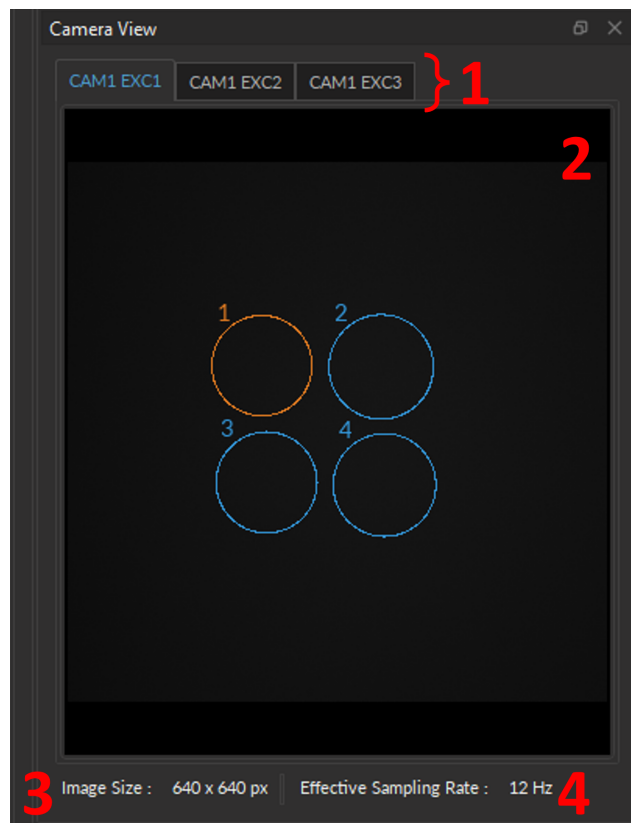

Figure 13.41: Camera View
1. The **CAM # EXC #** tab (Fig. 13.41, 1) - which displays each sensor's live video feed, where the ROI(s) can be drawn, edited, or deleted. Note that the tab will display the user-defined name if a name was assigned to each camera excitation when creating the channel in the **Configuration Window** (Fig. 13.15, e).
3. The **Image Size** (Fig. 13.41, 3) displays the image resolution, set in the **Configuration Window** (as in Fig. 13.15, 2).
4. The **Effective Sampling Rate** (Fig. 13.41, 4) the value set in Section 13.4.3, no. 1c.